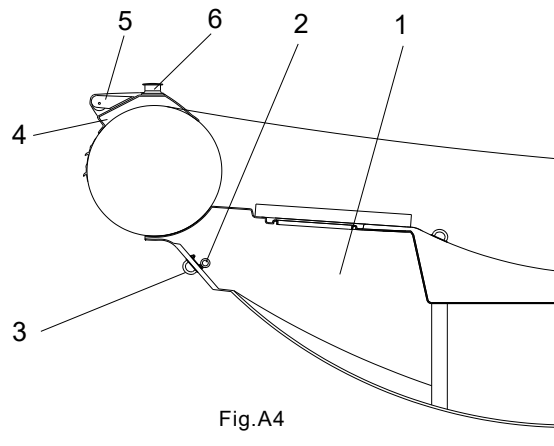

Fig.A4
On the boat there is space to accommodate the anchor (Fig.A4).
Use bow cleat only for mooring in calm water for a short time. If you are leaving the boat and there is a possibility of rough water or strong wind, use only bow U-bolts (3) Fig.A4 to bow mooring.